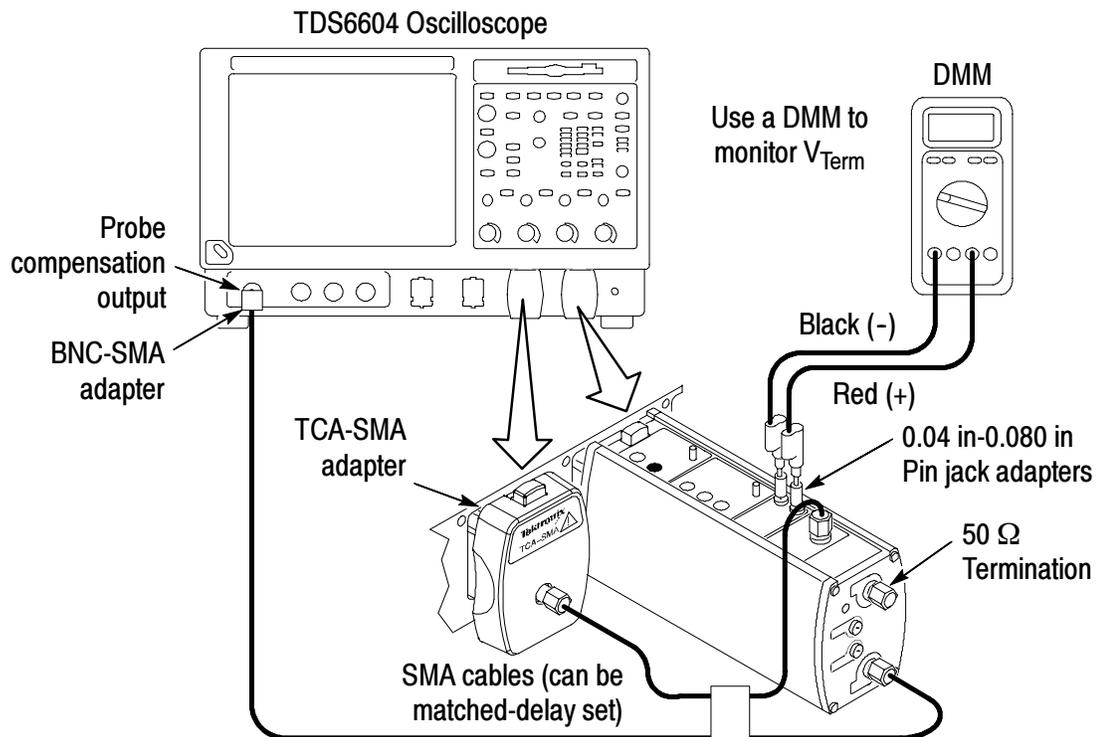

Figure 5: Aux output check test setup
3. Connect an SMA cable from the probe Aux output to another channel on the oscilloscope, using a Tektronix TCA-SMA adapter. See Figure 5 for the test setup. (You can use the other cable of the matched-delay cable set included with your probe.)